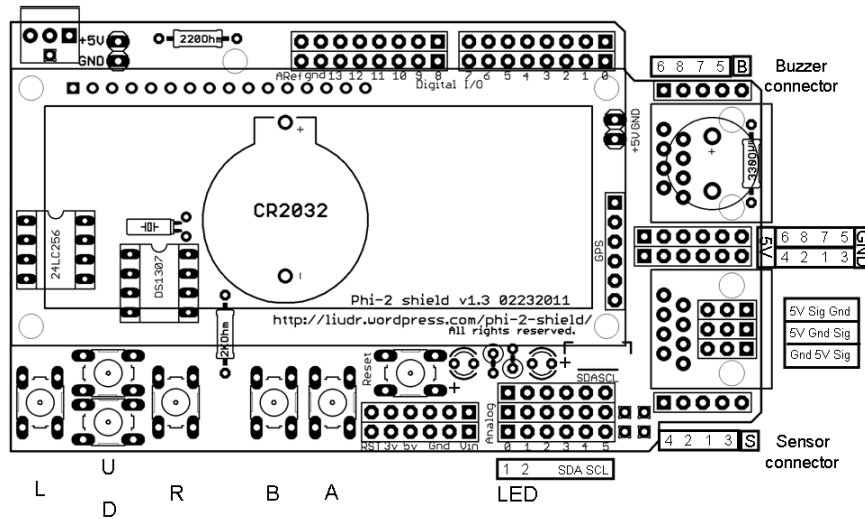

Fig. 14-1 Assembly and connection guide. Please print this out for your reference.
9. Test buzzer. While the buzzer is buzzing, disconnect the jumper to buzzer and connect to the two LEDs to test them as well. See Fig. 14-1 and 14-8 for LED connectors.